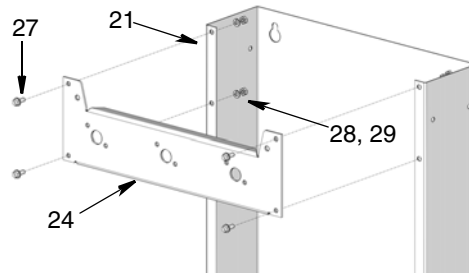

FIG. 6
3. Attach the meter mounting plate (24) to the wrapper dispenser (21) using screws (27), lock washers(28) and nuts (29) and existing holes. Tighten nuts securely. Refer to FIG. 6 for the correct installation orientation for these parts.